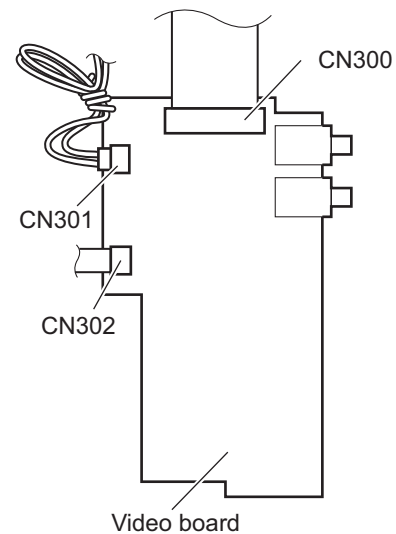

Fig.15
3.1.8 Removing the video board (See Fig.15)
3.1.9 Removing the fan (See Figs.15 and 16)
- (1) From the forward side of the video board, disconnect the wire from connector CN301. (See Fig.15.)